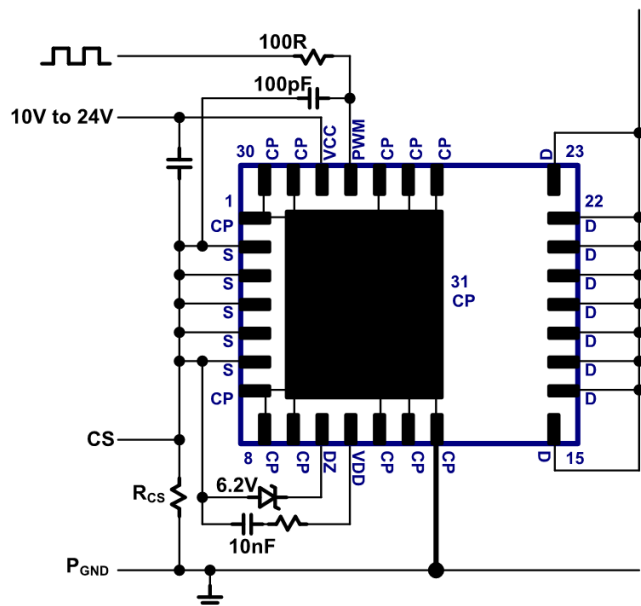

Fig. 24. Current sensing circuit
For many applications it is necessary to sense the cycle-by-cycle current flowing through the power FET. To sense the current flowing through the NV6125, a standard current-sensing resistor can be placed in between the source and power ground (Fig. 24). In this configuration, all of the components around the NV6125 (C_{VCC} , C_{VDD} , D_Z , etc.) should be grounded with a single connection at the source. Also, an additional RC filter can be inserted between the PWM signal and the PWM pin (100 Ω , 100 pF typical). This filter is necessary to prevent false triggering due to high-frequency voltage spikes occurring at the source node due to external parasitic inductance from the source PCB trace or the current-sensing resistor itself. For increased cooling pad PCB copper area it may be desired to connect CP to the circuit PGND. Fig. 24 shows the components around the NV6125 grounded at the source pins (S and CP connected to PGND). This allows for all CP pins and CP pad to be connected to a large and continuous thermal copper area without being obstructed by the current sensing resistor. **CP must be connected to source (S) or circuit PGND! Do not leave CP floating!**